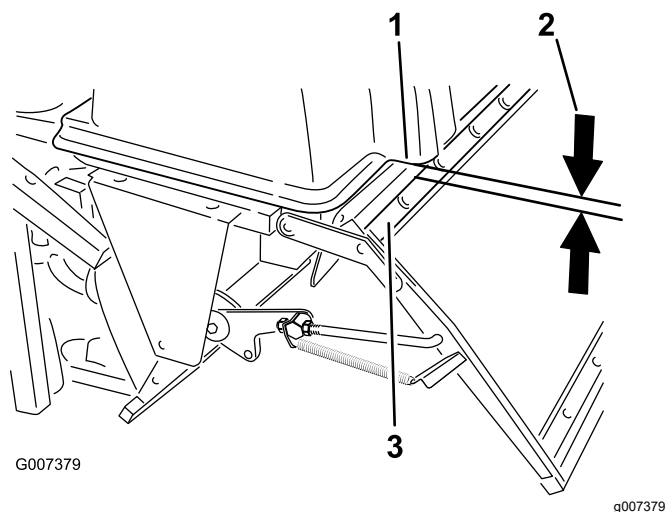

Figure 54
3. Check the distance between the upper tube of the door frame and the lower lip of the molded hood (Figure 54).